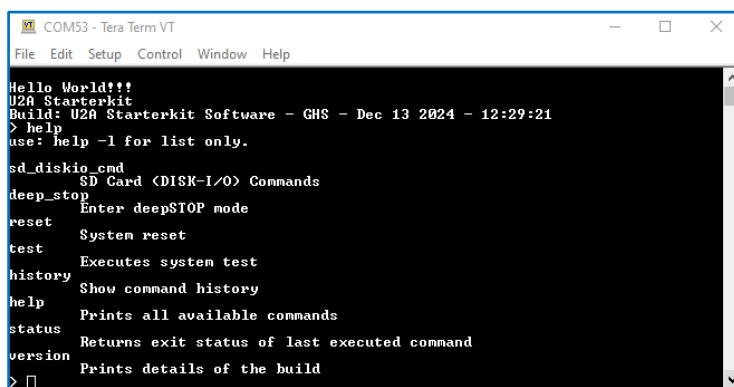

Figure 12 Help Command
- The user can execute “help” command in the shell interface and see the available commands as shown in *Figure 12 Help Command*.
- Please refer to *Figure 12 Help Command*.